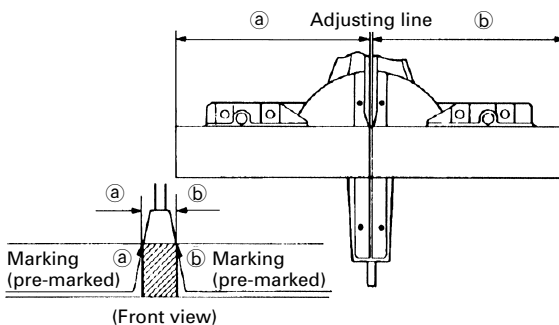

Fig. 26
(1) As shown in Fig. 26 the width of the saw blade is the width of the cut. Therefore, slide the workpiece to the right (viewed from the operator's position) when length **b** is desired, or to the left when length **a** is desired.